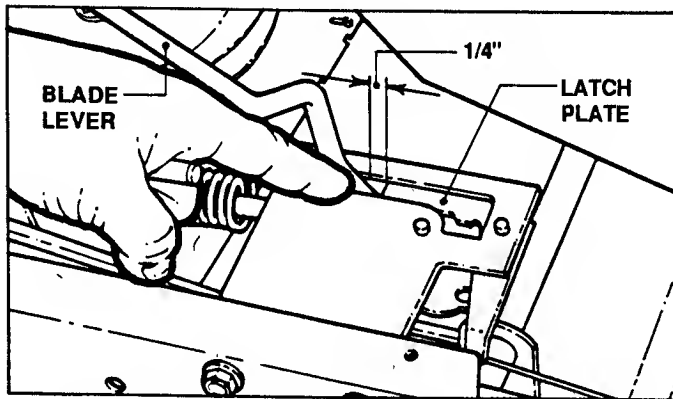

FIGURE 4.7
5. Depress blade pedals and measure the distance between front of blade lever and latch plate. The distance should be no greater than 1/4". See Figure 4.7.